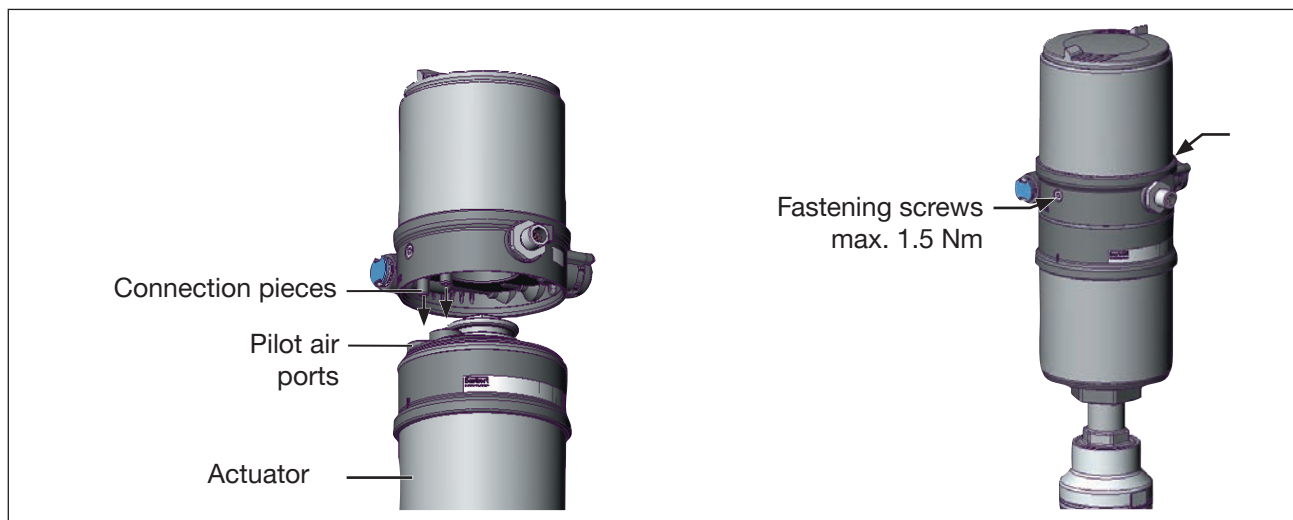

Figure 22: Installation of positioner, series 2103, 2300 and 2301
2. the connection pieces of the positioner can be inserted into the pilot air ports of the actuator (see also "Figure 22").